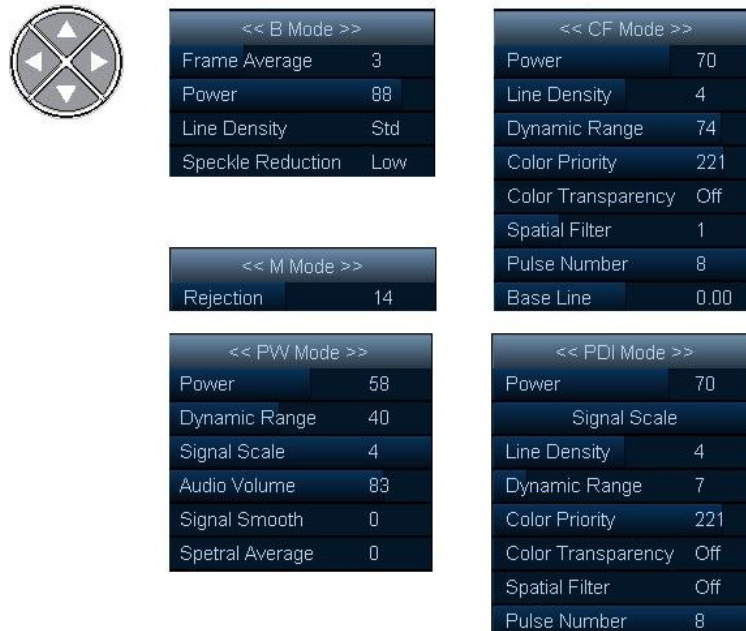

Figure 4-8 Key of sub-menu and sub-menu under different modes
- The key to sub-menu and the sub-menu under different modes are shown in Figure 4-8.